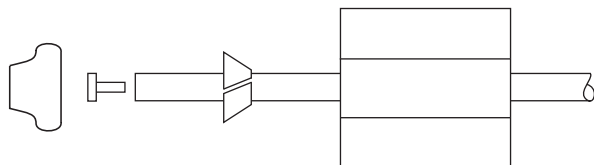

Figure 11
**NOTE:** Once the tubing has been pushed into the nut it cannot be pulled out. The nut will need to be removed. See Figure 11 for correct assembly.